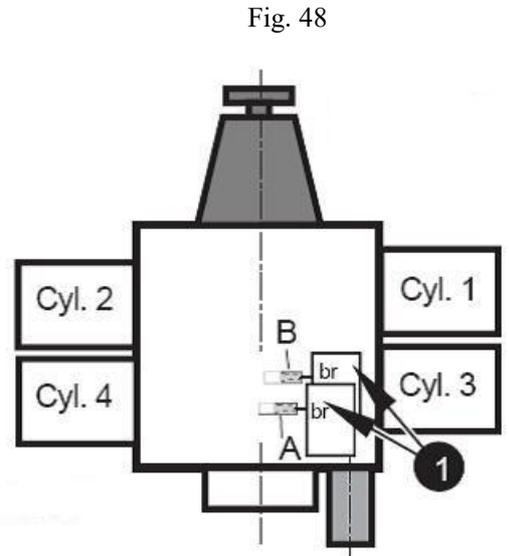

Fig. 48
**CAUTION:** The connections have to be completed by the aircraft manufacturer in accordance to effective certification and wiring diagram (Fig. 48). The electromagnetic compatibility (EMC) and electromagnetic interference (EMI) is greatly affected by the wiring and has to be checked for each installation.
See Fig. 48